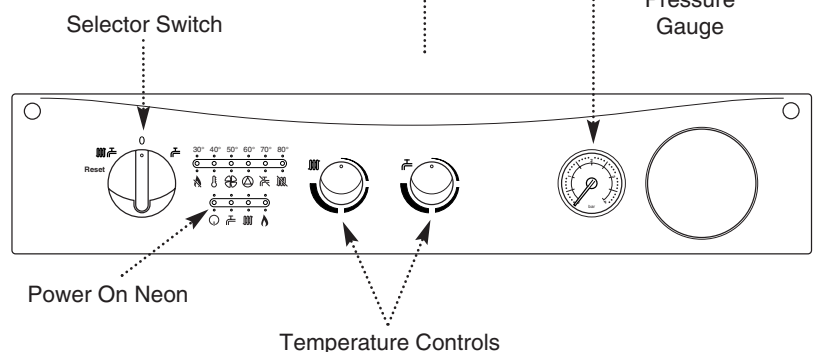

Fig. 36
2. Set the temperature controls to maximum and the selector switch to the Off position (Fig. 36).
6. Turn the selector switch to the Central Heating and Domestic Hot Water position (0000). The power On neon (0) will illuminate (Fig. 36).